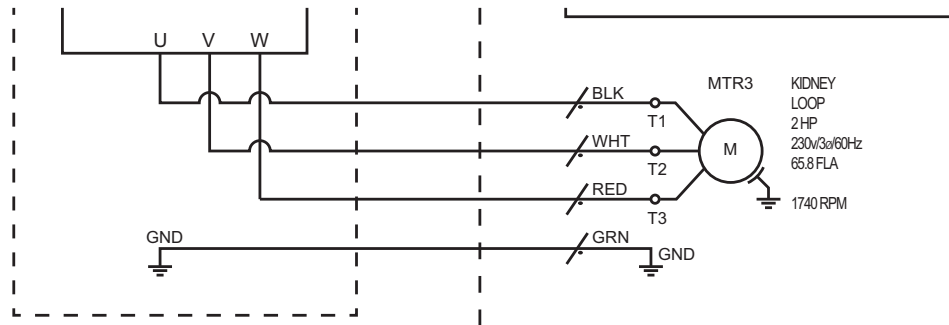

Figure 13: Newly installed three phase motor
11. Route cable B to the newly installed motor and wire it for 208-230 VAC three phase power supply (See Figure 13).